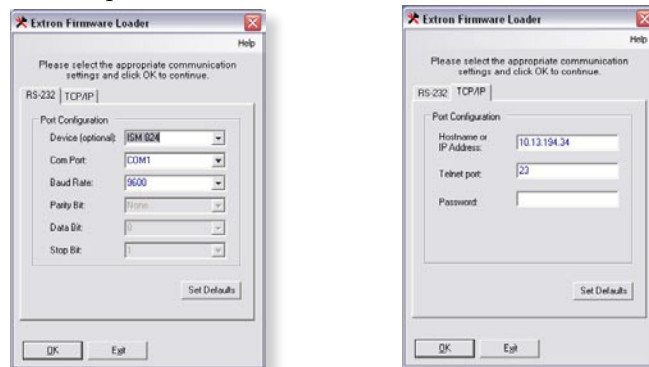

Figure 5-14 — Firmware Loader RS-232 and TCP/IP port configuration windows
2. Check or edit the settings in the Port Configuration boxes on the RS-232 tab. Alternatively check or edit the boxes on the TCP/IP tab (see figure 5-14). On the TCP/IP page, enter a password if needed. Click **OK**. The Firmware Loader attempts to connect to the device.